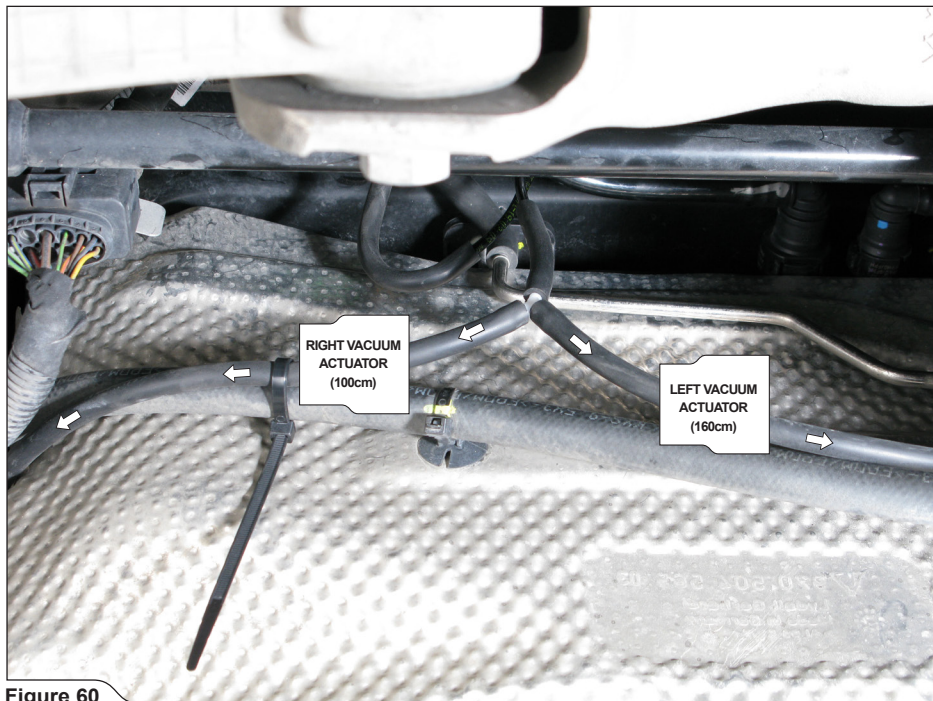

Figure 60
8. Link the Akrapovič vacuum hoses from plastic Y piece distributor to the vacuum actuators; LEFT: 160cm vacuum hose, RIGHT: 100cm vacuum hose (Figure 60, 61, 62).